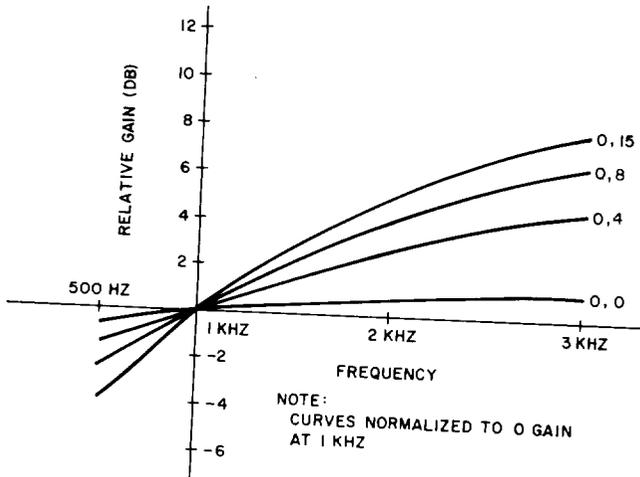
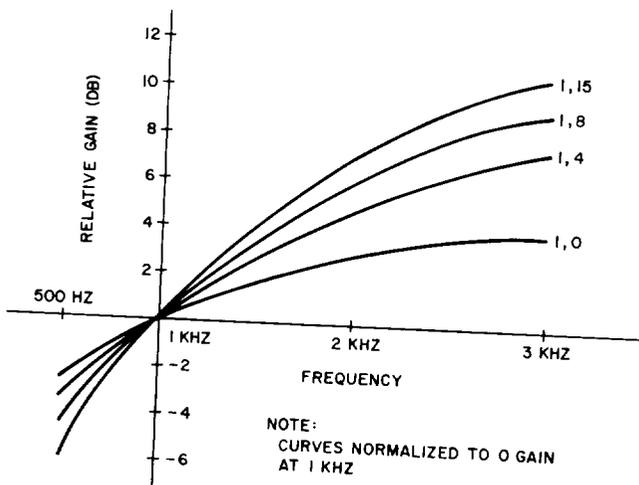

Fig. 8—Amplifier/Equalizer Frequency Response of the 309D Amplifier Unit—C Switch = 0 (off)
Fig. 9—Amplifier/Equalizer Frequency Response of the 309D Amplifier Unit—C Switch = 1 (Operated)
4.02 Figures 8 and 9 give the frequency response of the gain and equalizer unit. Figure 8 gives the response curves for various equalizer settings with the C switch set to 0. Figure 9 provides curves for the same equalizer settings with the C switch operated.